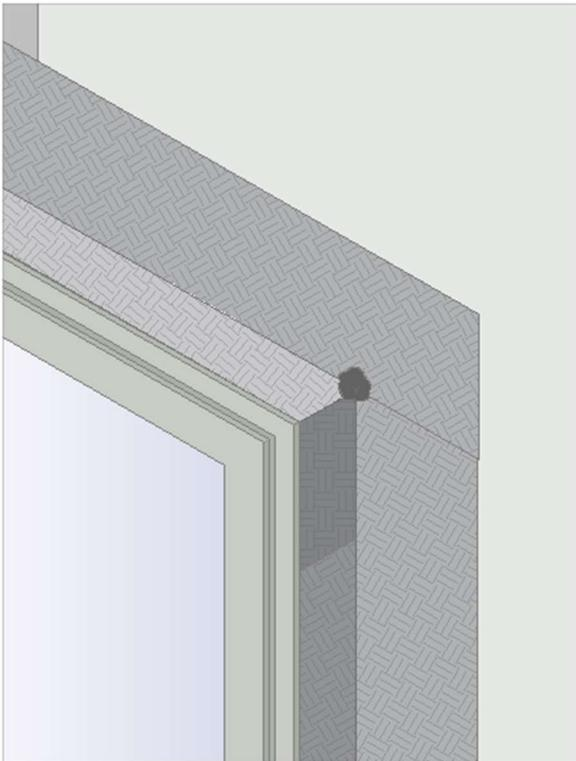

Figure 14
- ME020 FR Window & Door Sealing Membrane HD Self-Adhesive can be sealed with a small neat dab or bead of illbruck SP025 Fire Membrane Adhesive as shown in Figure 14.